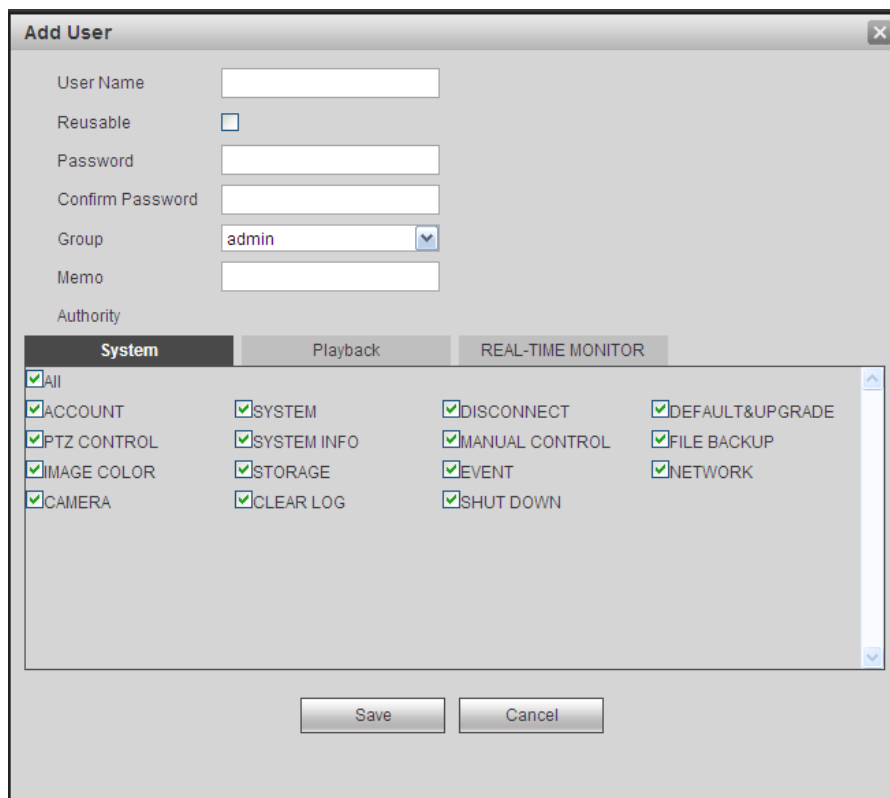

Figure 5-100
**Add user:** It is to add a name to group and set the user rights. See Figure 5-100.